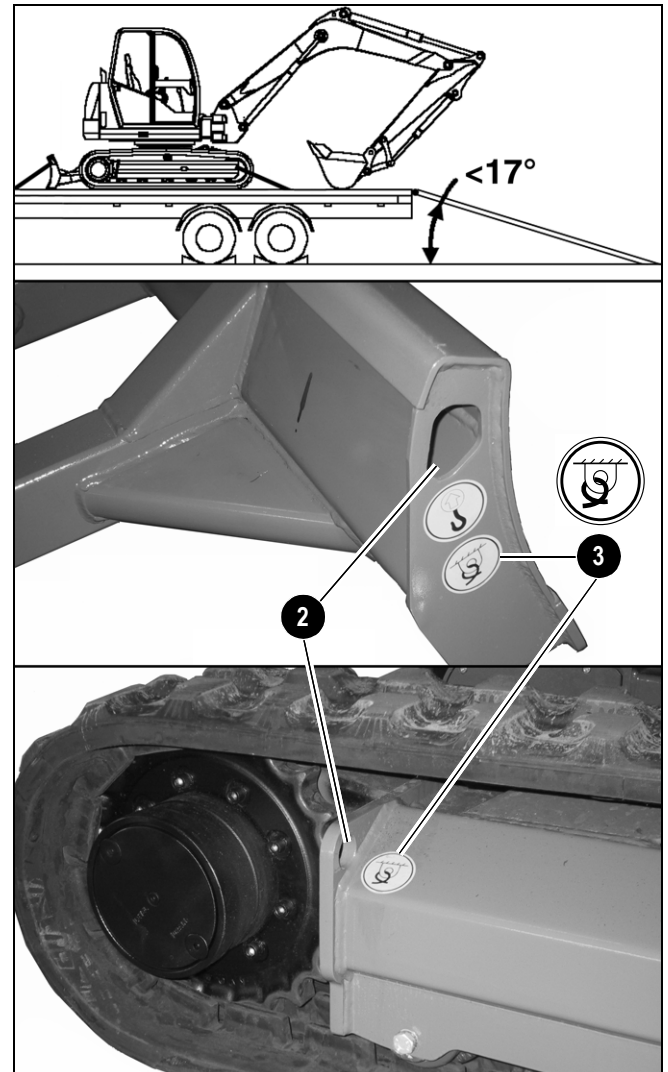

Figure 3-45 Loading and Transporting
8. Secure the excavator to the transporter at the tie-down points (2, Figure 3-45) to prevent the excavator from slipping, overturning or moving during transport.
Note: The tie-down points on the excavator are identified by decals (3, Figure 3-45).